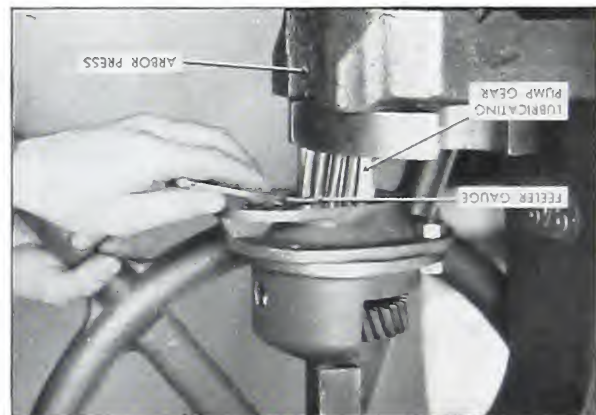

Fig. 7-5. Assembling lubricating oil pump gear
4. Using new gasket, insert pump bracket over bearing cage. Install Woodruff key in shaft and press pump gear on until shaft gear has a clearance of .0015 between gear and bracket. (Fig. 7-5).